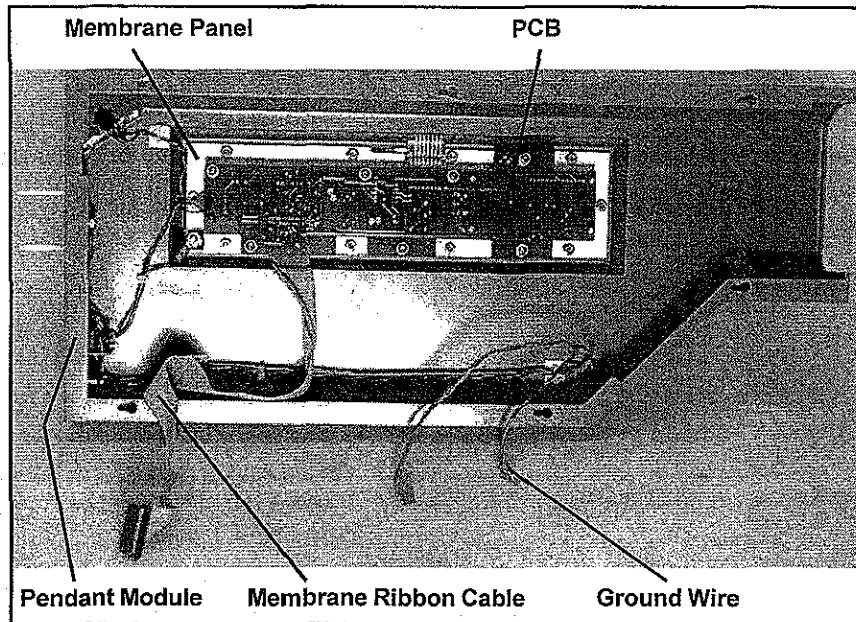
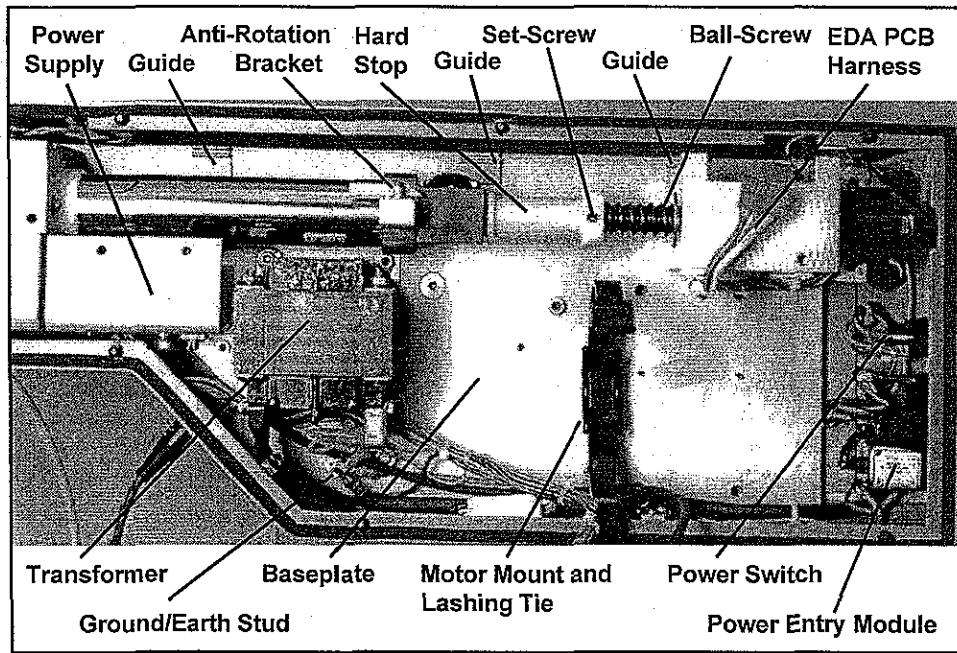

Figure 4-1b: Inside Injector Head's Front Enclosure
Figure 4-1c: Inside the Injector Head
Refer to Figures 4-1b, 4-1c, and 4-2a and 4-2b.
7. Gently remove the ribbon connector (ribbon cable from the front enclosure to the main PCB—see Figure 4-1b) from the main PCB. Squeeze the locking tabs on each side of the connector while removing.
8. Remove the plug connector for the green and red wires from the main PCB (see Figure 4-1b). Carefully pull down and out.
9. Refer to Figure 4-1c and locate the Ground/Earth stud beneath the transformer. Use the 11/32" nut driver to remove the hex nut and washers. Disconnect the front enclosure's ground wire—green with yellow stripe—from the Ground/Earth stud (see Figure 4-1b).
6. Insert the 5/64" balldriver into the set-screw of the Hard Stop (see Figure 4-1c). Loosen the set-screw by turning it one or two times counter-clockwise.
1. Locate the three (3) PCB guides on the baseplate inside the Injector. The PCB must be fully inserted into these guides. Refer to Figure 4-1c.
6. Make certain that the top of the PCB is clean of any foreign particles, and place the clear insulating cover on top of the PCB. The five (5) holes on the insulator must line up with the holes on the PCB to receive button-head screws A, B, C, D, E, and F.